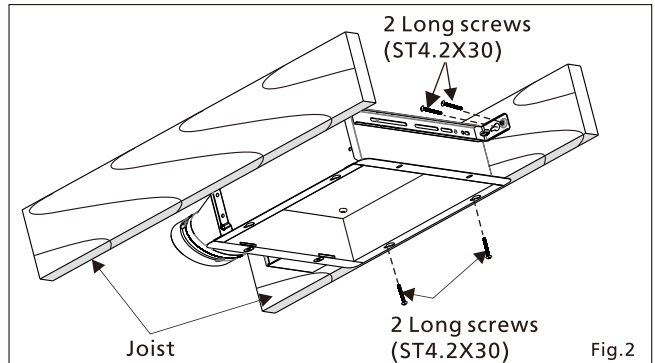

Fig.2
2. Fix the flange of frame to joist by 2 long screws (ST4.2X30), and fix the suspension bracket to joist by 2 long screws (ST4.2X30). (Fig.2)